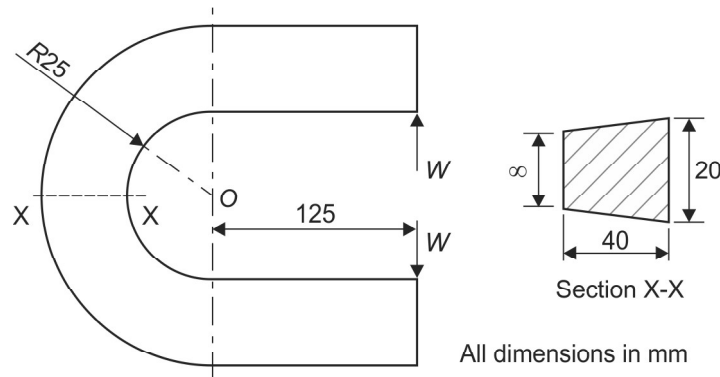

Fig. 1.12: Problem 8
- 8. The frame of a punch press is shown in Fig 1.12. Find the stresses at the inner and outer fibers at section X-X of the frame, if $W = 5000 \text{ N}$.**